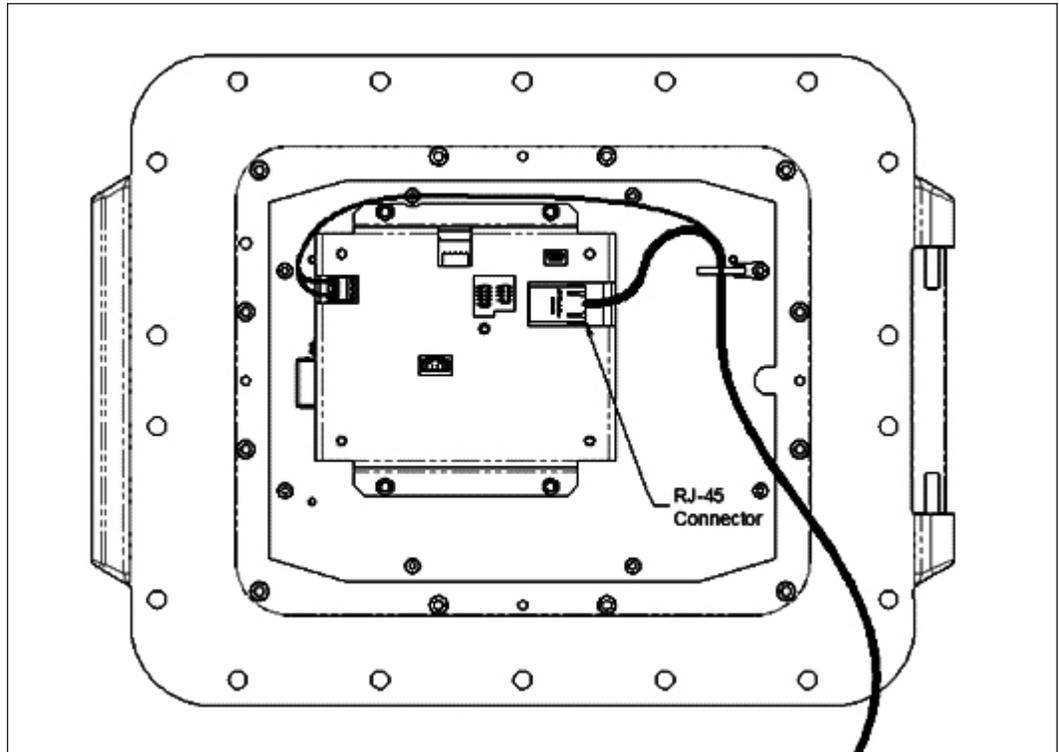

Figure 5 – Display Ethernet port location (ALIV-ST Shown)
8. Connect the other end of the twisted pair power cable from the A4M to the connector identified as CN4 +24VDC (red) to CN4 Terminal 1; Common (black) to CN4 terminal 2 or 3. (Refer to Figure 5.)
10. Route and secure the Ethernet jumper and power cables as shown in Figure 5.